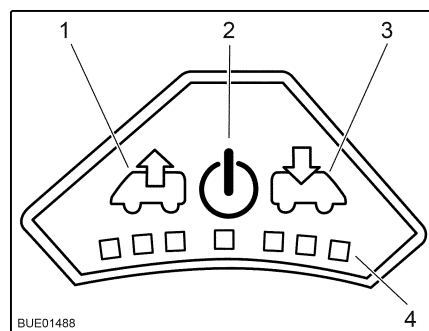

Fig. 102 Control panel for fan
- Press the On/Off button (Fig. 102,2). The fan runs in comfort mode (venting at slowest fan speed).
- To increase the fan speed: Press the Vent button (Fig. 102,1). The fan speed in the venting direction increases by one level. LEDs (Fig. 102,4) show the operating levels.
- To lower the fan speed: Press the Aerate button (Fig. 102,3). The fan speed decreases by one level.
- To increase the fan speed: Press the Aerate button (Fig. 102,3). The fan speed in the aerating direction increases by one step. LEDs (Fig. 102,4) show the operating levels.
- To lower the fan speed: Press the Vent button (Fig. 102,1). The fan speed decreases by one level.
- Press the On/Off button (Fig. 102,2). The fan stops, the LEDs go out.